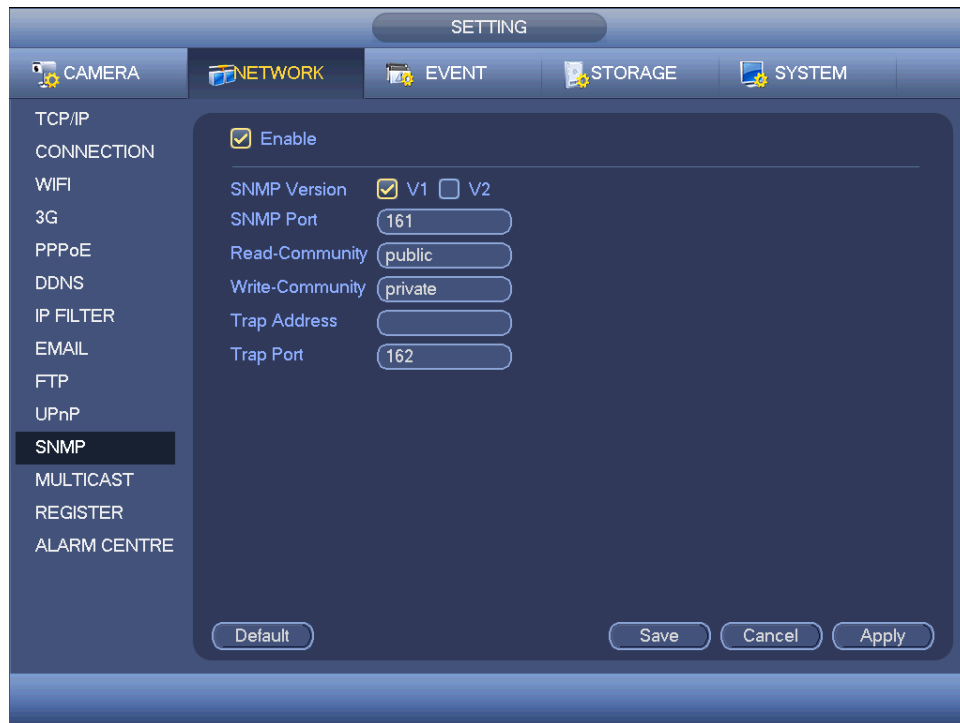

Figure 4-76
SNMP is an abbreviation of Simple Network Management Protocol. It provides the basic network management frame of the network management system. The SNMP widely used in many environments. It is used in many network device, software and system. You can set in the following interface. See Figure 4-76.
- In Figure 4-76, check the box to enable the SNMP function. Input the IP address of the PC than is running the software in the Trap address. You can use default setup for the rest items.